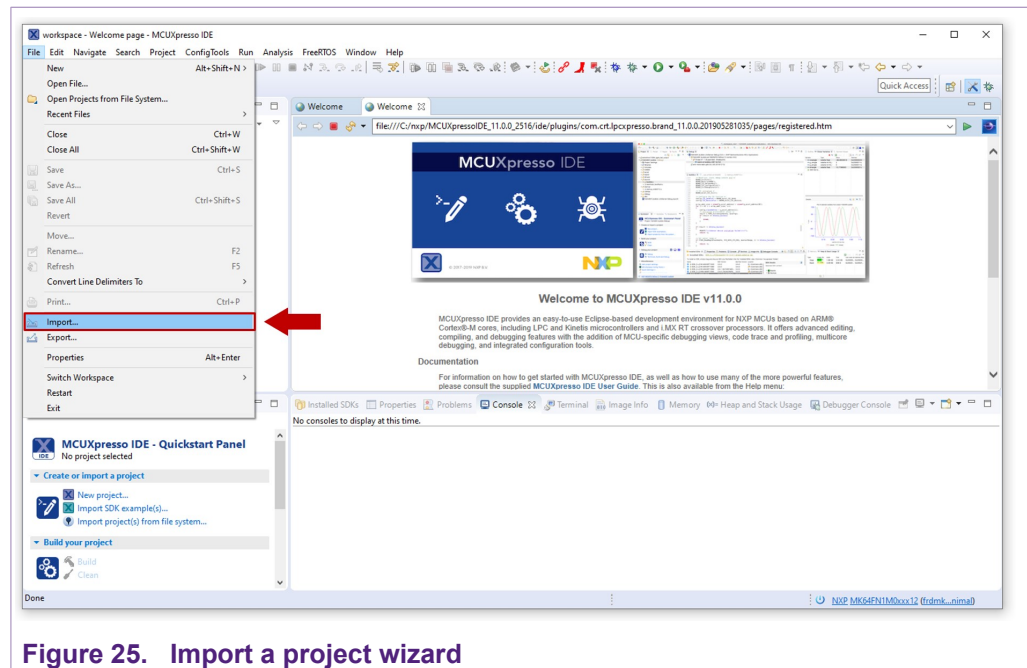

Figure 25. Import a project wizard
1. Go to **File** → **Import** using the top bar menu as shown in Figure 25. **Note:** In this case, do not use the MCUXpresso Quickstart Panel to import project.